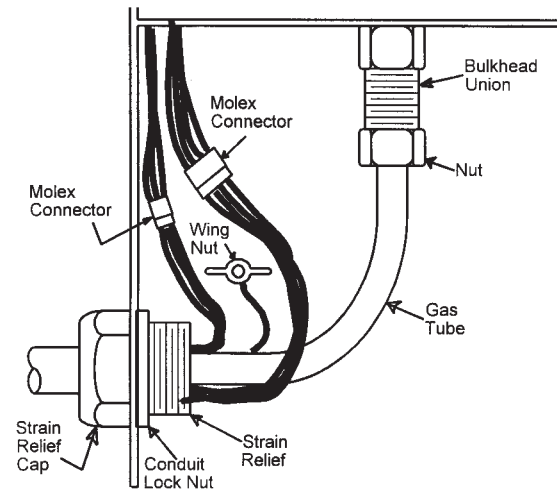

FIGURE A.1 — Torch Connections.
- C. To remove a torch from the Pro-Cut, refer to Figure A.1 and do the following: